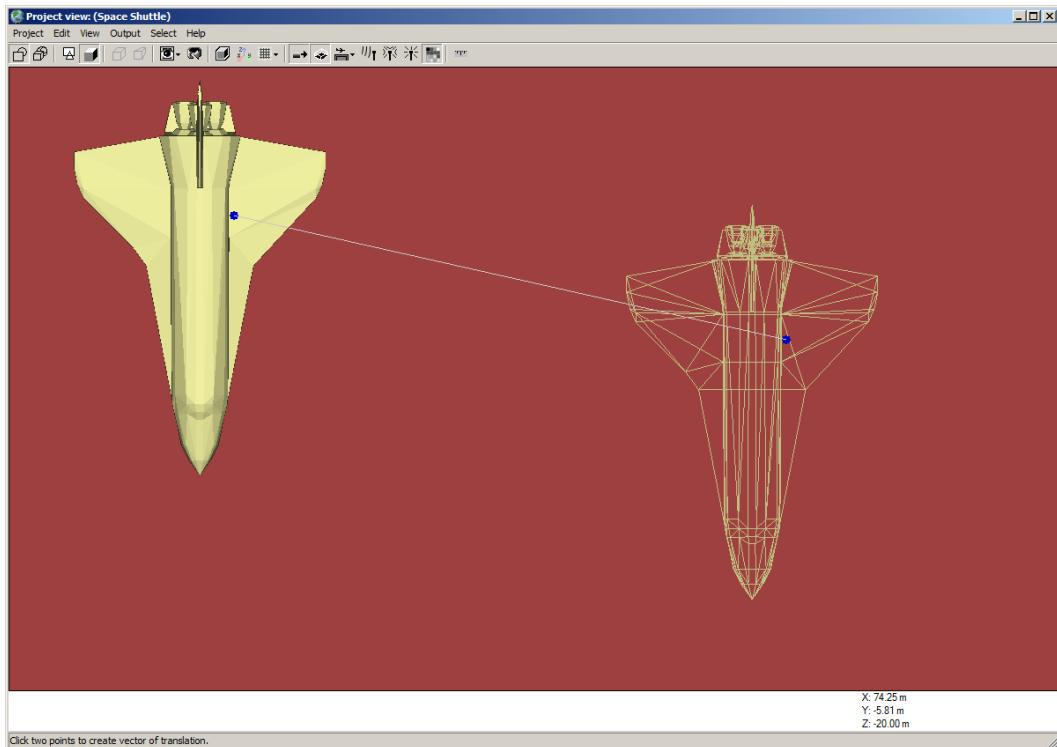

Figure 3.15: Visually translating an object in the Project View.
- *Translate in* **PROJECT VIEW** - Uses the **PROJECT VIEW** to do a visual translation in the x-y plane. When this is activated the part of the **FEATURE** that will act as the anchor point for the operation must be selected. The **FEATURE** can then be moved around in the **PROJECT VIEW** until the desired location is achieved. Clicking at this point will translate the **FEATURE** to that position. In figure 3.15 a point on the shuttle was selected as the anchor point and then used to translate it to the position indicated by its outline at the new location.